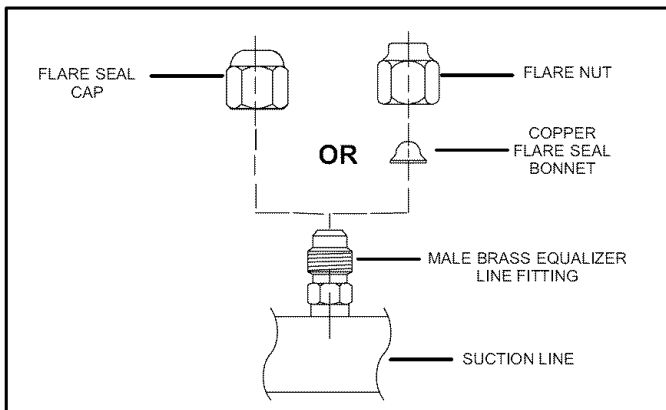

**Figure 28. TXV Sensing Bulb Installation**
6. Attach the suction line sensing bulb in the proper orientation as illustrated in figure 28 using the clamp and screws provided.